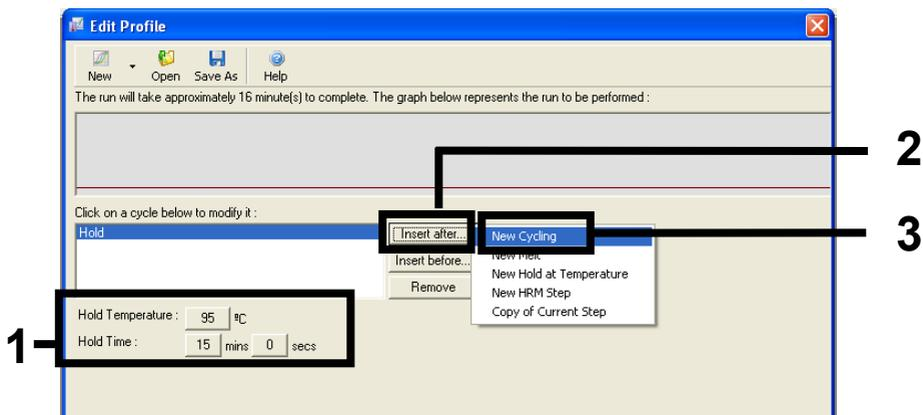

Figure 13. Initial incubation step at 95°C. 1 = "Hold Temperature and Hold Time," 2 = "Insert after," 3 = "New Cycling."
7. Change "Hold Temperature" to 95°C and "Hold Time" to 15 minutes 0 second. Click "Insert After" and then select "New Cycling" (Figure 13).